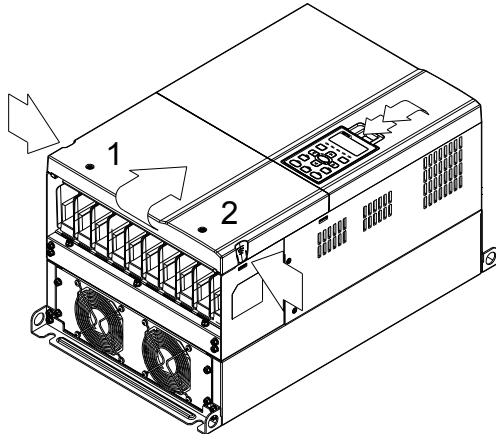

Figure 1
4. (Figure 1) Loosen screw 1 and screw 2, press the on the right and the left to remove the cover, follow the direction the arrows indicate. Press on top of digital keypad KPC-CE01 to properly remove the keypad. Screw torque: 10~12kg-cm (8.6~10.4in-lbf).